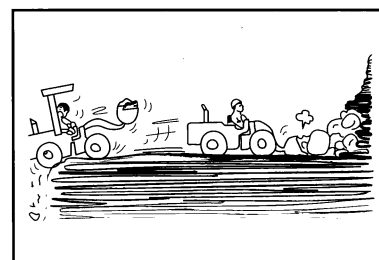

Figure1-73
- Before traversing the loader, please observe the behind area carefully. (Figure 1-73)